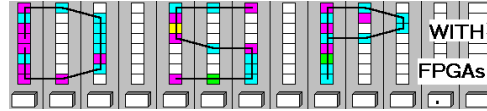

**Fig. 4:** Complex multiplier using three real multiplications.
1. Create a new model and complete the design of the complex multiplier to match **Fig. 4**.